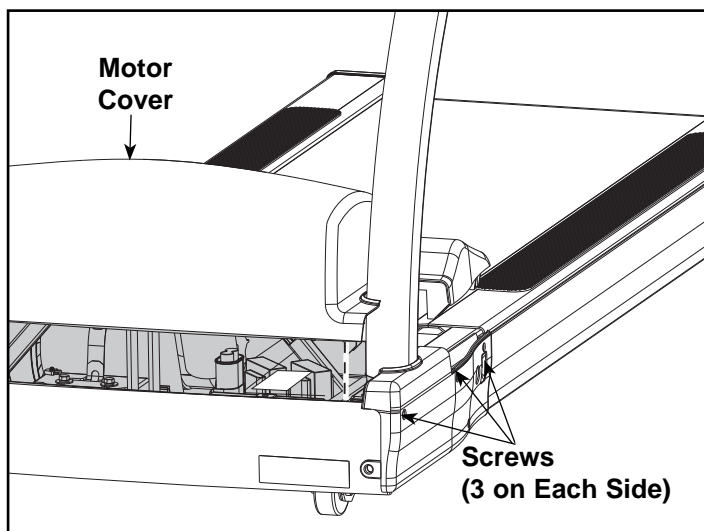

Figure 2
- Enter *Test Mode* by holding down any key on the display while turning the power switch to the on (I) position.
- Turn the main power switch on the left side to the off (O) position.
- Using a Phillips screwdriver, loosen three screws on each motor cover side (left and right). See Figure 2.
- A. Plug the treadmill back in and turn it to the on (I) position.
- A. Lower the motor cover center into position. See Figure 2.
- F. Press **Stop** and turn the power switch to the off (O) position.
- A. Using a Phillips screwdriver, loosen three screws on each motor cover side (left and right). See Figure 2.
- B. Lift the motor cover center up and off the treadmill. The screws will stay in place. See Figure 2.
- A. Enter *Test Mode* by pressing and holding down any key on the display while turning the power switch to the on (I) position. When the key is released "PRO" and the software revision "rx.x" are shown on the display.
- A. Lower the motor cover into position. See Figure 2.
- A. Turn the main power switch on the left side to the off (O) position.
- A. Using a Phillips screwdriver, loosen the three screws on each motor cover side (left and right). See Figure 2.
- B. Lift the motor cover center up and off the treadmill. **NOTE:** The screws will stay in place. See Figure 2.